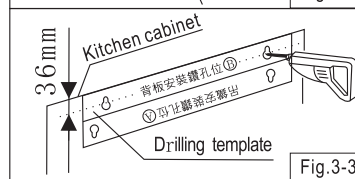

Fig.3-3
- Rest the drilling template (B) against the wall. The distance between the bottom of cabinet is 36mm. Drill holes at the indicated position (1 hole each at left and right).(Fig.3-3)